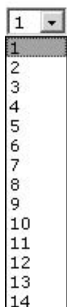

Figure 6-14 — Input selection drop box
1. Click the Input drop box. A drop-down box appears (figure 6-14).